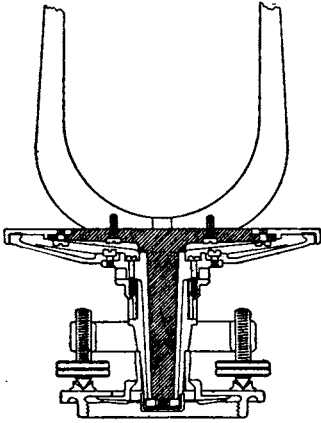

FIG. 4.
**U-shaped Standards.** Our transits with U-shaped Standards (Fig. 4) are of improved patented construction. The standards are directly and rigidly